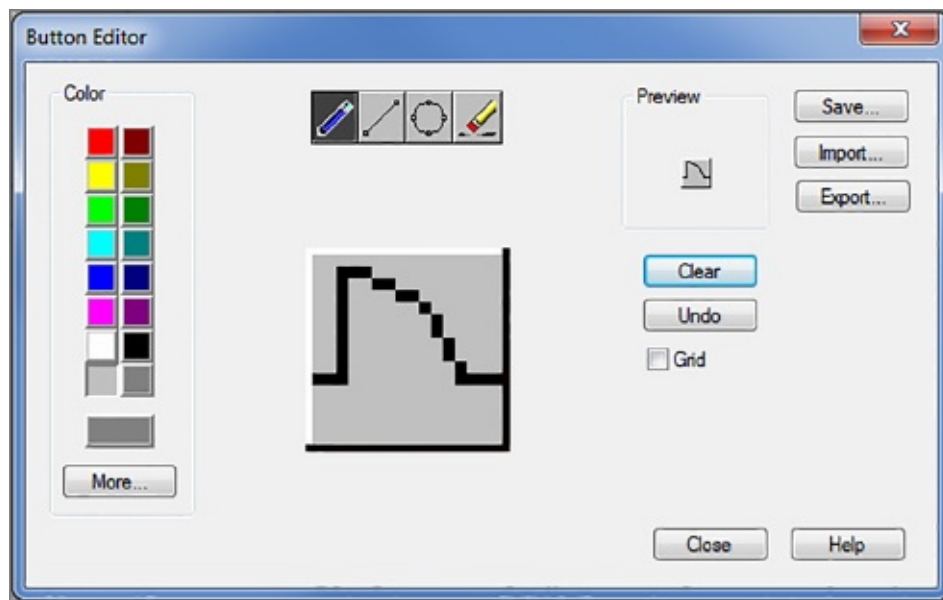

FIGURE 24.19 Draw this door icon.
7. Draw the door icon shown in Figure 24.19. Don't worry if it's not perfect; you can always go back and fix it.